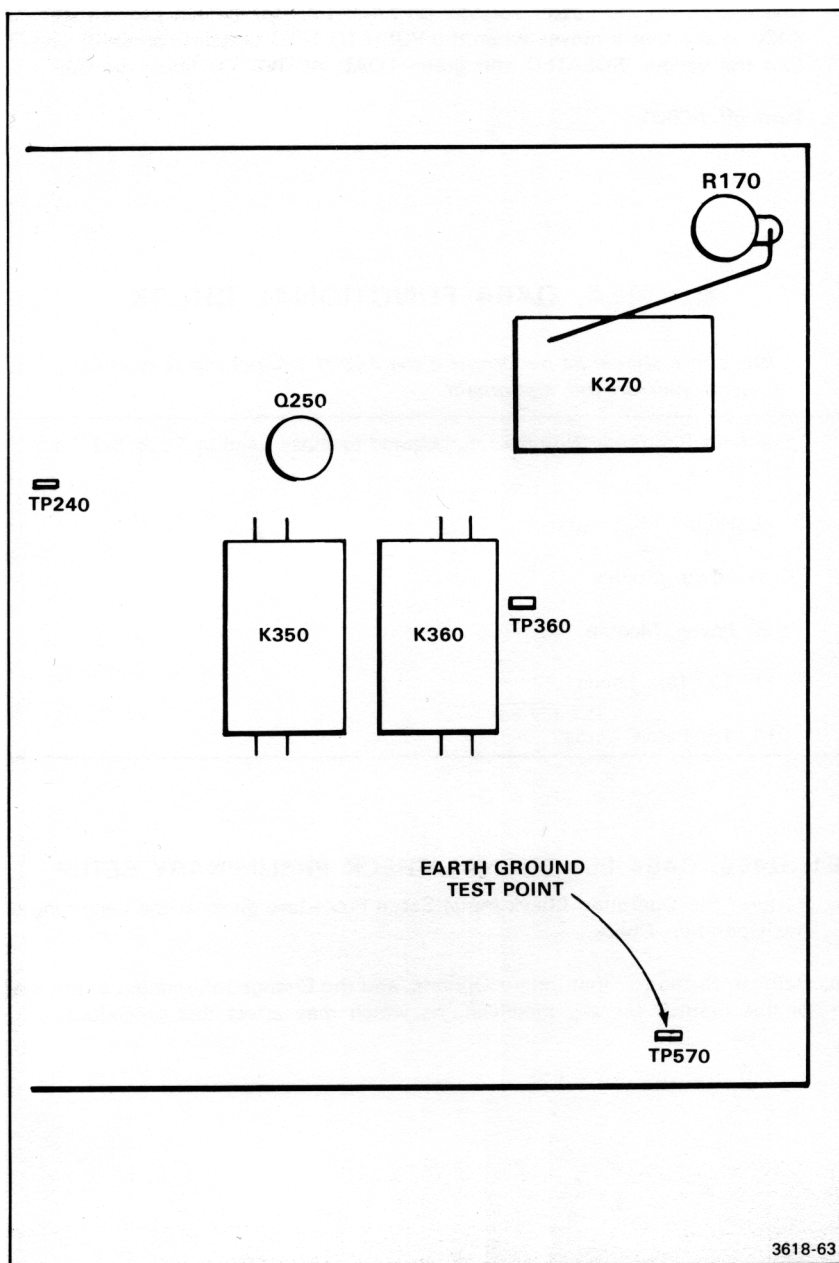

Figure 5-6. Location of test points.
- c. Connect the Low terminal of the DMM to Earth Ground of the A6901. See Figure 5-6.
- k. Connect the DMM Volts/ $\Omega$  lead to TP240 and the DMM low lead to TP570. See Figure 5-6.